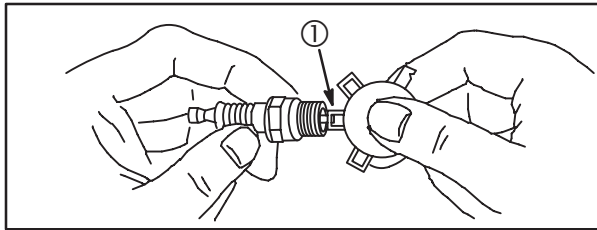

Fig. 47
Use a wire gauge (1) to set spark plug gap, **Fig. 47**.